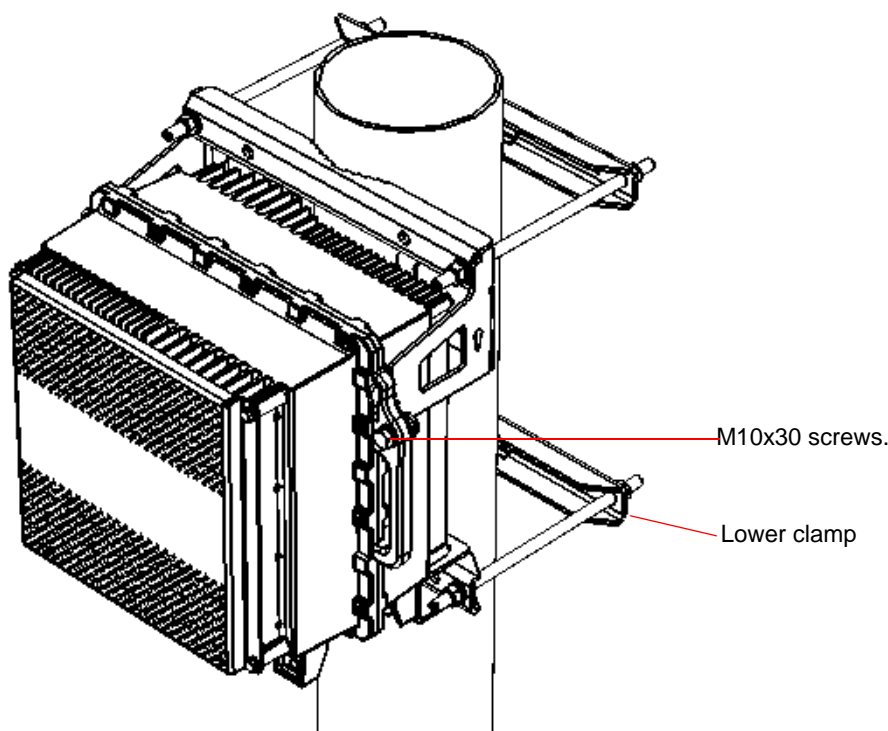

Figure 22: One ODU Assembled on the Pole
- 5 Attach the lower clamp to the lower carrying bracket and tighten using the supplied washers, spring washers and nuts (Figure 22).